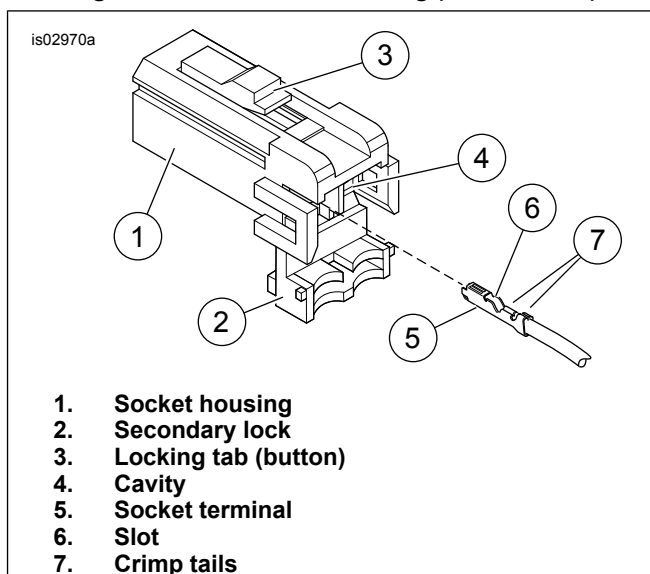
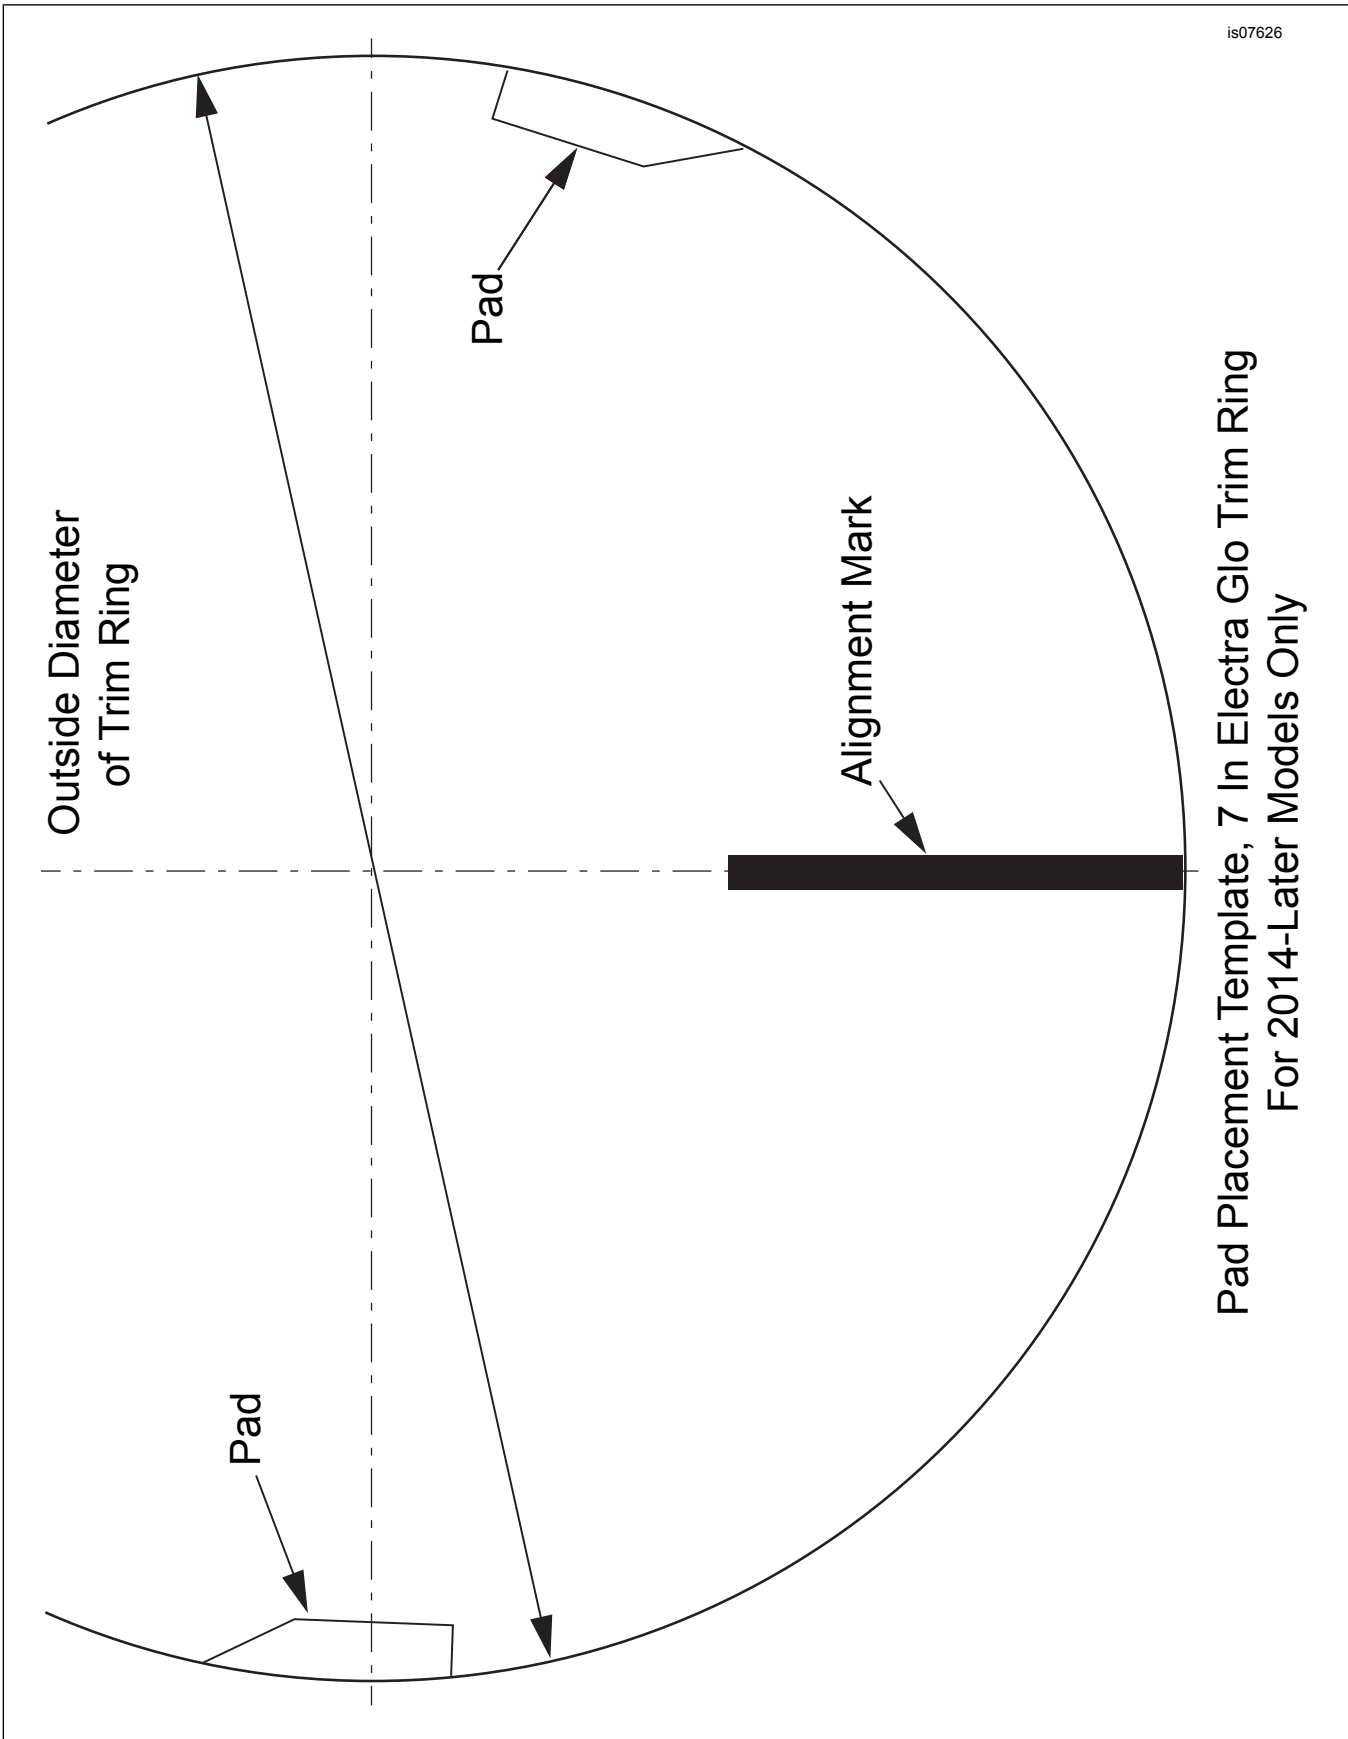

Figure 2. Socket Terminal Installation
Figure 4. Pad Placement Template, 7 In Electra Glo Trim Ring For 2014-Later Models Only
8. See Figure 2. Insert the trim ring wire socket terminals into the connector from the kit per the Tyco/AMP connector section of the service manual:
7. Support the trim ring. See Figure 2. Insert the trim ring wire socket terminals into the connector from the kit per the Tyco/AMP connector section of the service manual:
8. Secure the jumper harness to existing wiring using the cable straps (4) from the kit.
9. Get the two neoprene pads (6) from the kit.
- a. See Figure 4. Place the Electra Glo trim ring face up on the template provided in these instructions.
10. Support the trim ring. See Figure 2. Insert the trim ring wire socket terminals into the connector from the kit per the Tyco/AMP connector section of the service manual: